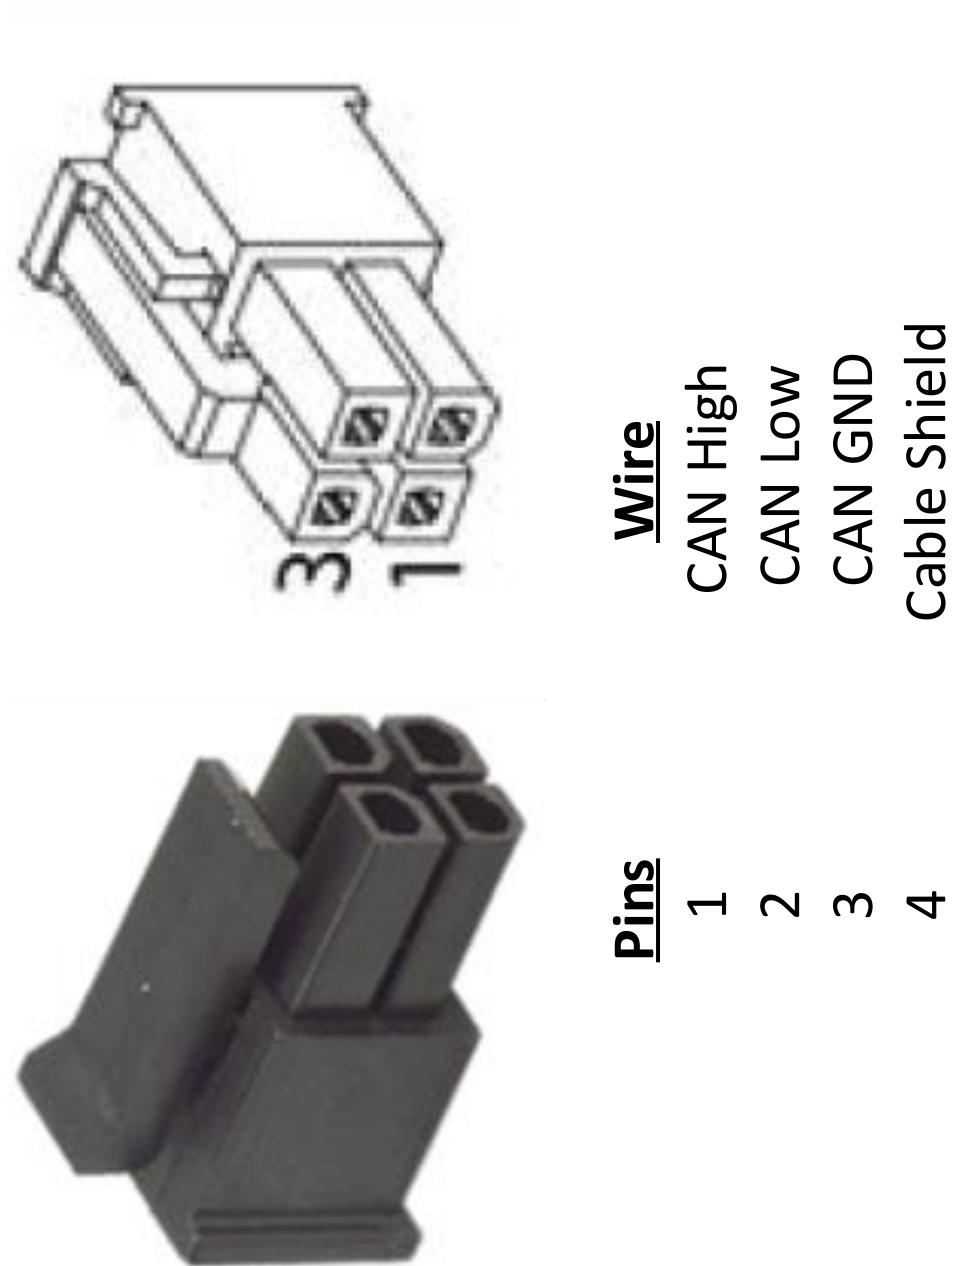

Figure 3.27: microCAN: Molex Micro-Fit 3.0™4 poles (43025-0400)
- Picture and pinout: see figure 3.27